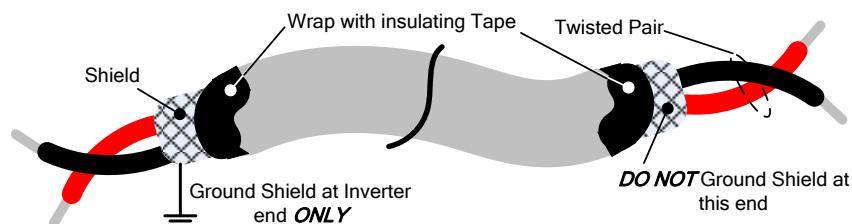

Fig. 3.13.1 Shielded Twisted-Pair
- (1) Separate the wiring for control circuit terminals from main circuit wiring for terminals (R/L1, S/L2, T/L3, U/T1, V/T2, W/T3).
- (2) Separate the wiring for control circuit terminals RA-RB (Relay output) from wiring for terminals S1 – S5, AVI, ACI and AGND wiring.
- (3) Use shielded twisted-pair cables (#24 - #14 AWG / 0.5 -2 mm2) shown in Fig. 3.13.1 for control circuits to minimize noise problems. The maximum wiring distance should not exceed 50m (165 ft).